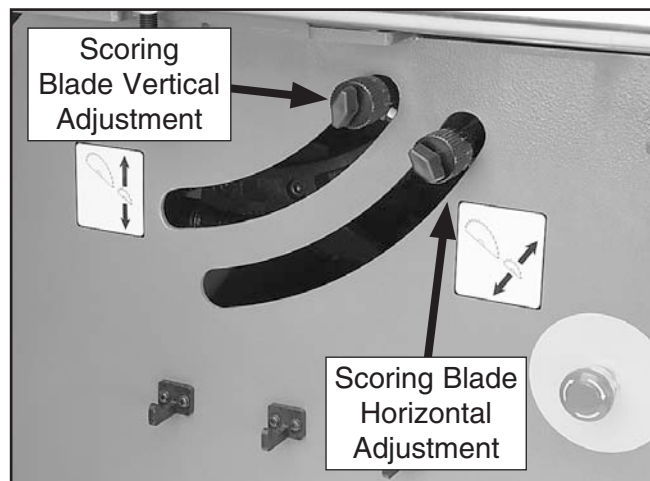

Figure 39. Scoring blade adjustment controls.
30. Move the scoring blade tilt to 0° (blade 90° to table), then raise it up, using the vertical adjustment knob (**Figure 39**), until enough of the wedge shaped teeth are exposed from the table surface to equal the same width as the main blade teeth.